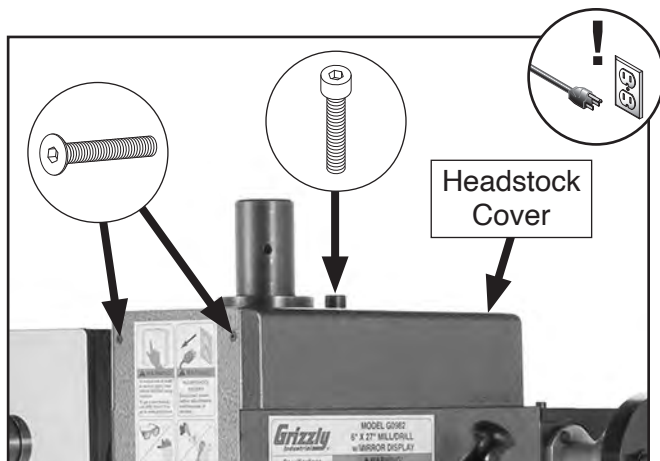

Figure 68. Location of headstock cover and securing screws.
2. Remove (2) flat head cap screws shown in **Figure 68**.
3. Remove cap screw shown in **Figure 68**, then remove headstock cover.